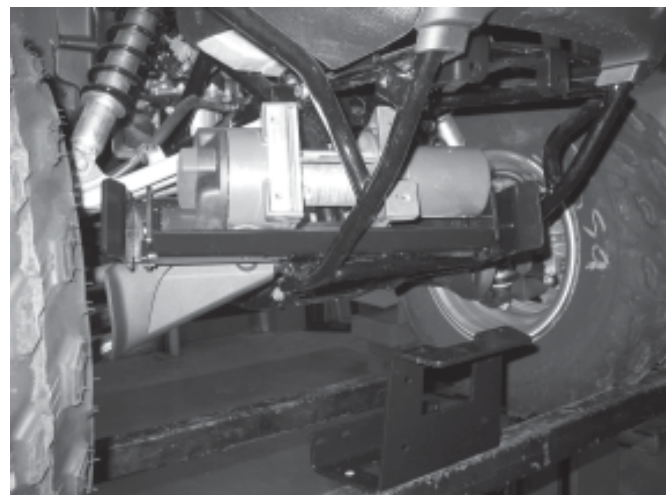

Figure 3
3. Place winch inside plow mount, as shown in Figure 3 and carefully slide into vehicle frame from the side.